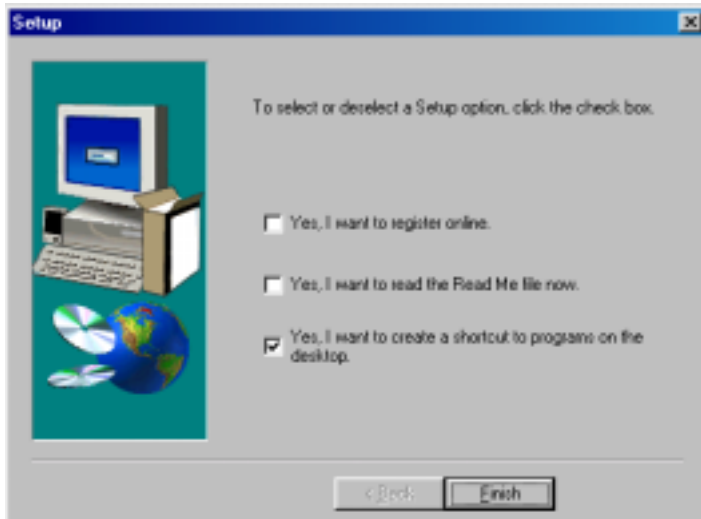

Figure 13: cancelling online registration and completing installation
11. After installation, switch off the 'Online registration' option to skip registration and click on 'Finish' to complete the installation. See figure 13.